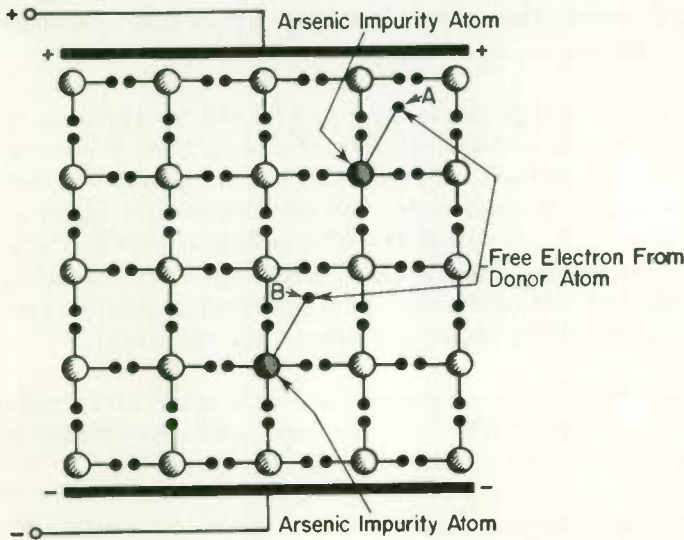

Fig. 9 Semiconductor crystal with donor impurities.
14 HOW DONORS INCREASE CURRENT FLOW . . . Atoms of arsenic and antimony have five electrons in their outer shell. Figure 9 shows how atoms of arsenic impurity affect the electrical properties of a semiconductor. The two arsenic atoms replace germanium atoms in the crystal structure. Four of the outer shell electrons of each arsenic atom form covalent bonds with adjoining germanium atoms. The fifth outer shell electron from each impurity atom is left over, not tied to anything. It is therefore only very loosely held to its atom. It takes only the slightest energy from heat, light, or an applied voltage to break it loose, making it a free electron.
When a voltage, as shown in Fig. 9, is applied across a semiconductor with donor type impurities, the free electrons provided by the donors (electrons A and B) drift to the (92) _____ plate. With elec-
(91) donor; (92) positive;
trons A and B gone, the two arsenic impurity atoms are now (93) _____ charged because they are each short one electron in their outer orbit. All the other atoms are neutrally charged. Therefore, with electrons A and B drawn out of the material onto the plate, the material taken as a whole is positively charged. The positive charge of the material will draw electrons from the negative plate into the material in sufficient number to maintain a neutral charge on the material. In other words, when in Fig. 9 the two free electrons are drawn to the positive plate, two electrons at the same time enter the material from the negative plate. Hence, there is at all times two free electrons in the material to balance the positive charges on the two arsenic impurity atoms. Since the free electrons within the material continually drift to the positive plate to be replaced by electrons coming up from the negative plate, this is a continuous current flow as long as a voltage is applied to the plates.